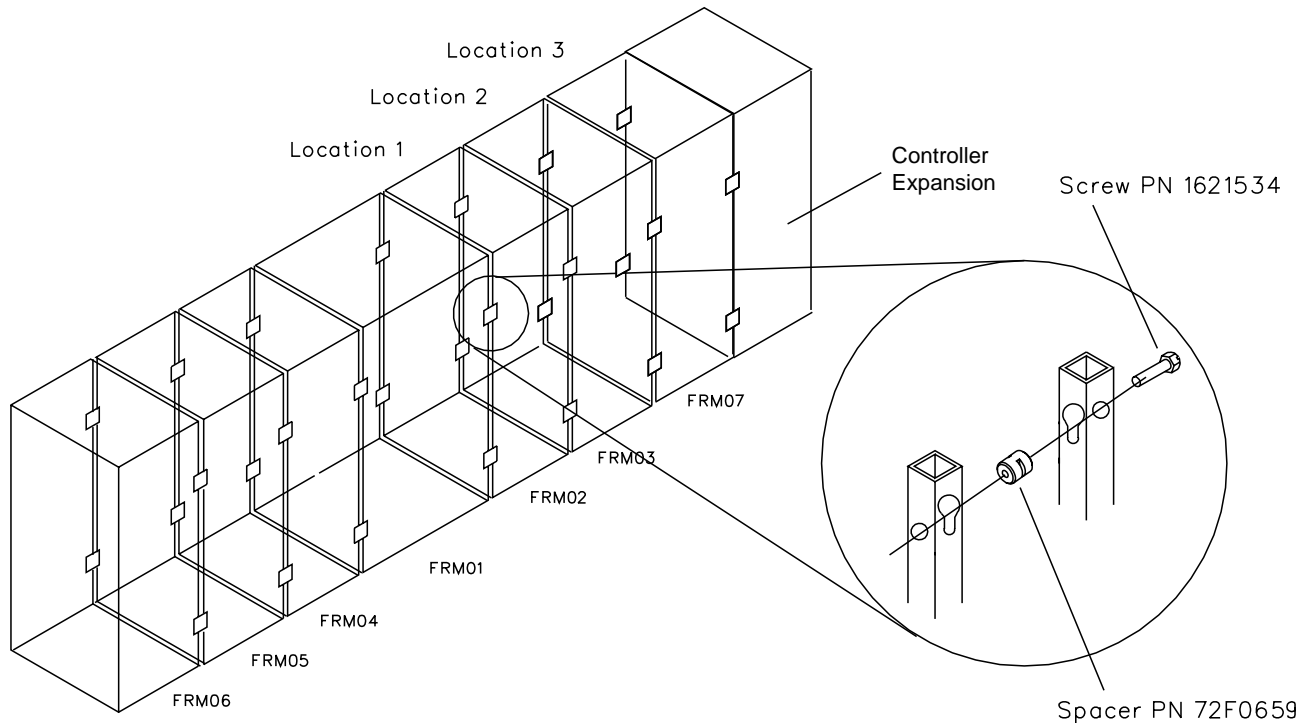

Figure 4-1. Frame Attachment
- Step c. ____ Put the 4 spacers (PN 72F0659) in the 3745 base frame as shown in Figure 4-1 on page 4-3.
- Step e. ____ Install pads (PN 03F7783) and studs (PN 76F9365) and using a 7/8" wrench, make a leveling pad adjustment on the 3746-900. Align the frame bolt holes, remove the black shield covers if needed, and bolt the 3746-900 to the 3745 using screws (PN 1621534) and spacers (PN 72F0659) (see Figure 4-1 on page 4-3).
- Step d. ____ Put the 4 spacers (PN 72F0659) in the 3746 A11 frame as shown in Figure 4-1 on page 4-3.
- Step f. ____ Install pads (PN 03F7783) and studs (PN 76F9365) and using a 7/8" wrench, make a leveling pad adjustment on the 3746-900. Align the frame bolt holes, remove the black shield covers if needed, and bolt the 3746-900 to the 3746-A11 using screws (PN 1621534) and spacers (PN 72F0659) (see Figure 4-1 on page 4-3).
- Step d. ____ Put the 4 spacers (PN 72F0659) in the 3746 A12 frame as shown in Figure 4-1 on page 4-3.
- Step f. ____ Install pads (PN 03F7783) and studs (PN 76F9365) and using a 7/8" wrench, make a leveling pad adjustment on the 3746-900. Align the frame bolt holes, remove the black shield covers if needed, and bolt the 3746-900 to the 3746-A12 using screws (PN 1621534) and spacers (PN 72F0659) (see Figure 4-1 on page 4-3).